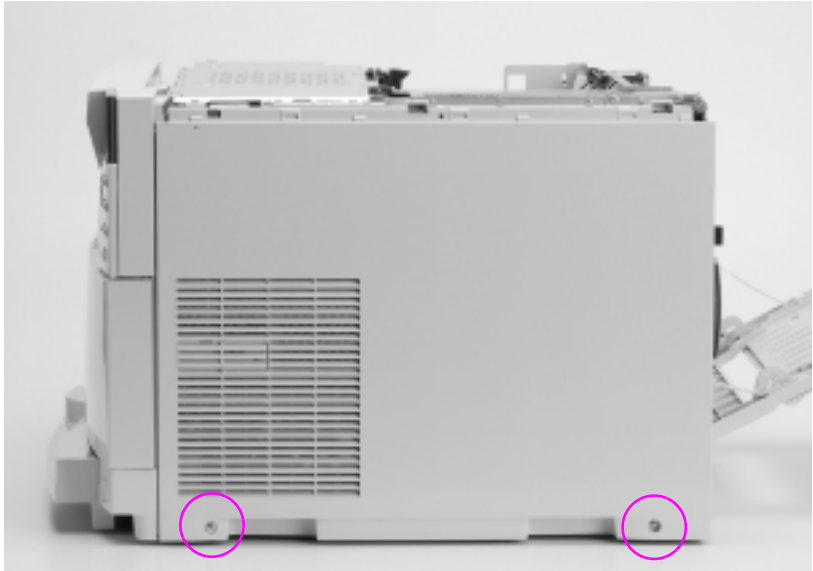

Figure 6-4
- 2 Remove the two screws as shown in Figure 6-4.